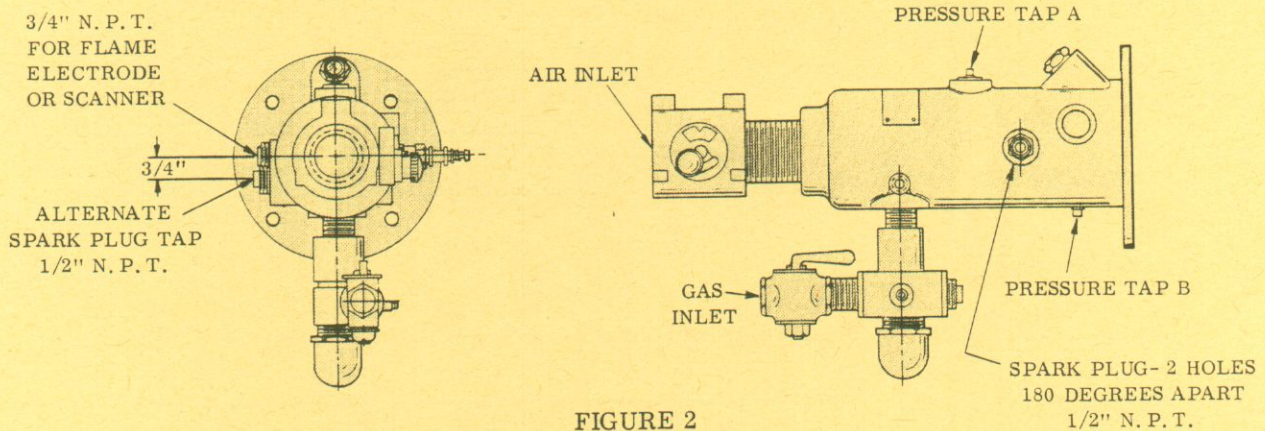

FIGURE 2
4.1 Flame safety may be provided by using either a flame electrode or an ultra-violet scanner to monitor the flame. (See Figure 2.)